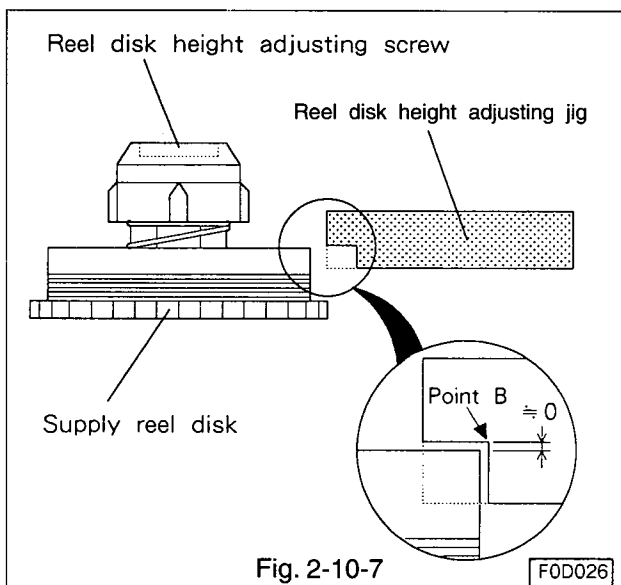

Fig. 2-10-7
- K. Slowly turn the jig about point A and make sure that the height of the supply reel disk flange agrees with the point B on the supply disk adjusting side of the jig (marked SP). (Refer to Fig. 2-10-7.)